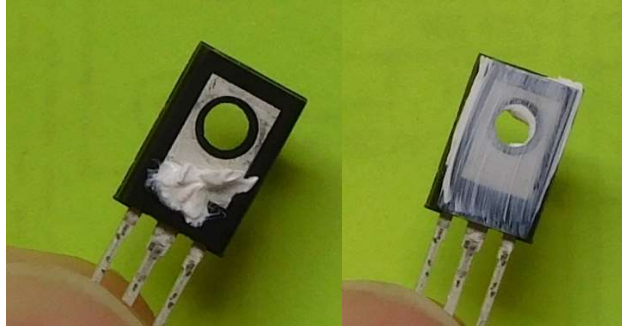

Figure 16-finishing step for the output inductor
4. Wind 6 turns of wire, closely spaced, so it looks like Figure 16. When you get to the end of the coil, fold the end across the existing turns, toward the L1B hole.